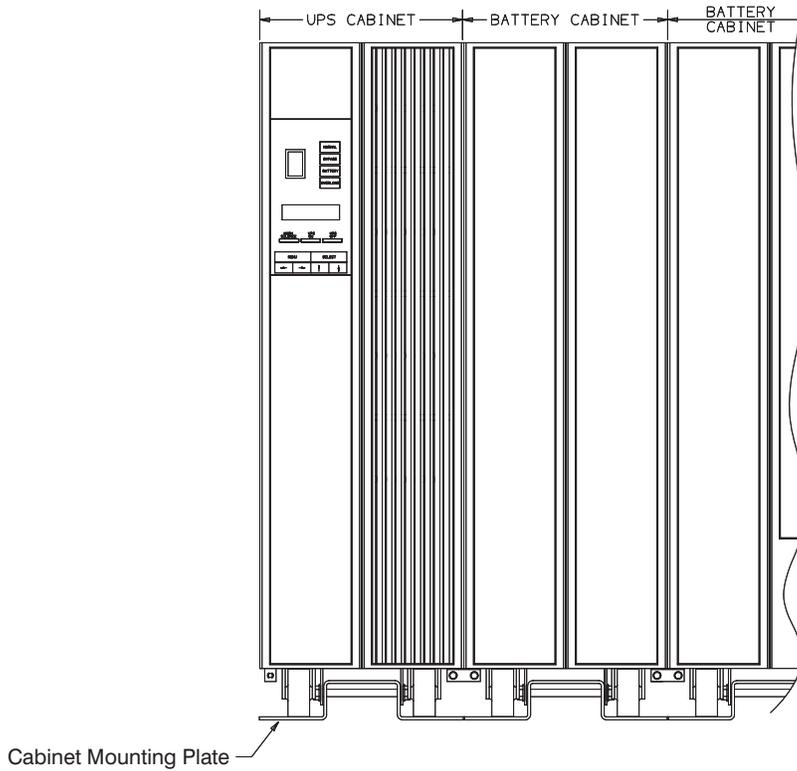

Figure 8. Front View of the Plus 18 UPS
6. Position the cabinets into the approximate final operating position with the battery to the right of the UPS cabinet as shown in Figure 8.